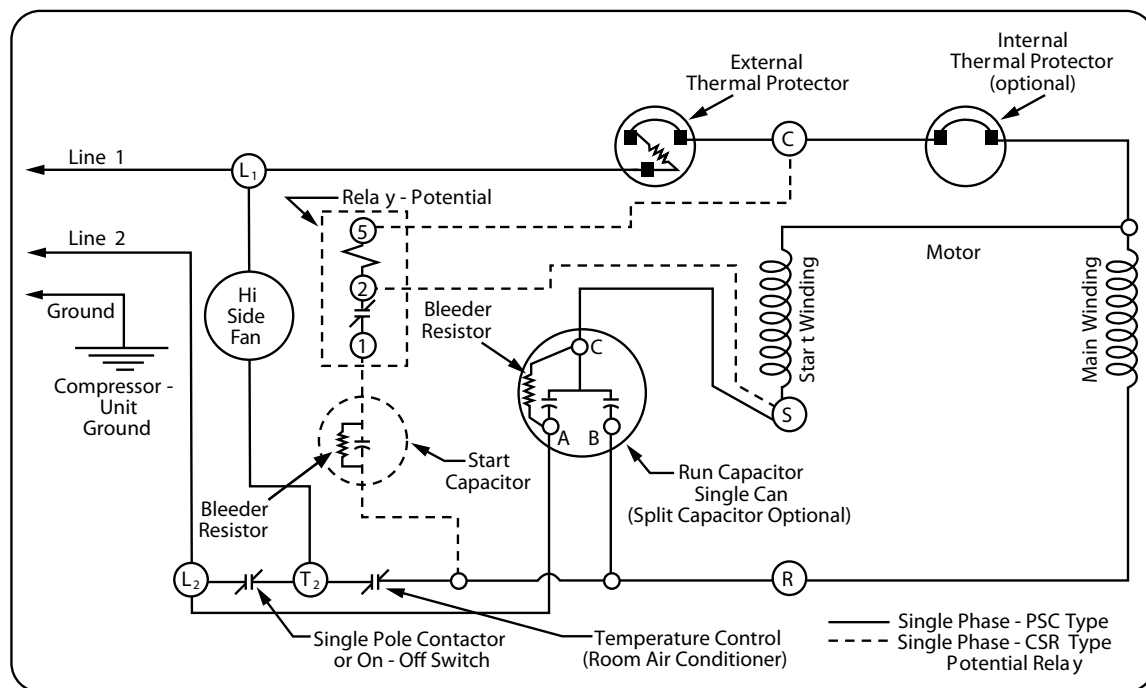

FIGURE 6-8: Wiring diagram for PSC compressor with run capacitance off-cycle heat.
- Run capacitor is sometimes split (3 terminals) so that only part of the capacitance is used for off-cycle heating. NOTE: use exact replacement when changing such dual purpose run capacitors. Capacitor must be fused and carry a bleeder resistor across the terminals. See Figure 6-8 for the basic wiring diagram for a PSC compressor with run capacitance off-cycle heat.